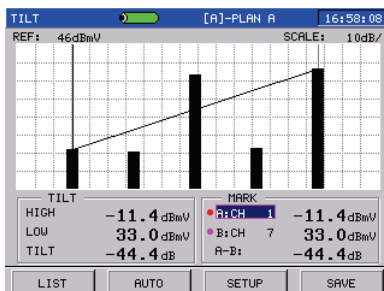

Figure 3-10-8
**MARK:** Turn the knob to select MARK A or MARK B, then press the knob, a purple frame will appear, as Figure 3-10-8. Now turning the knob can move the active MARK to another channel. Channel No., level and difference between two frequencies marker will be displayed at the bottom of screen. This will be helpful for you to easily get two channels' details and difference.